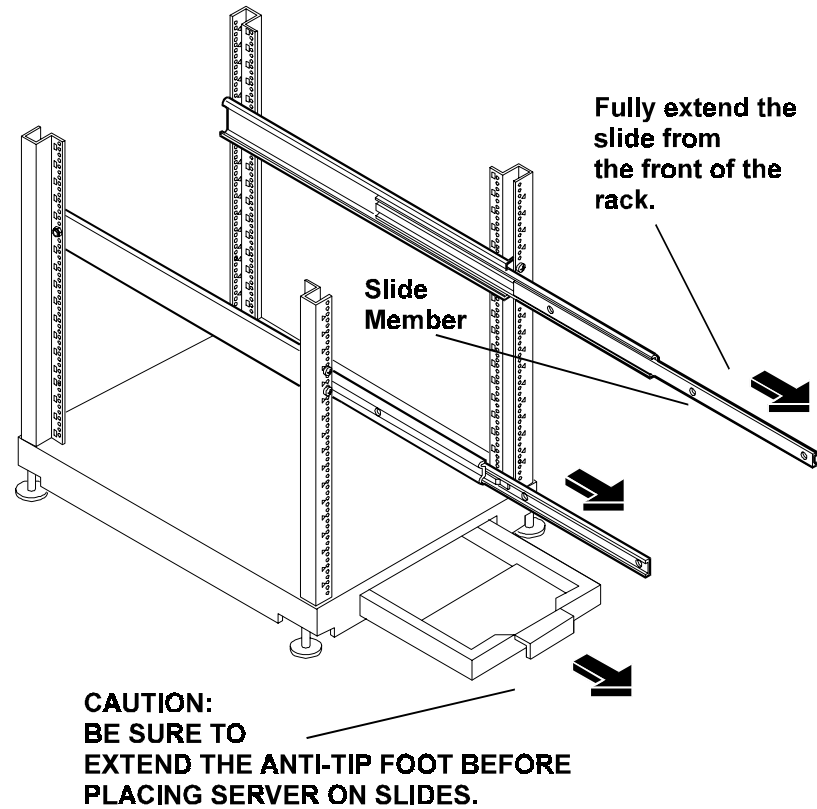

Figure 8-12. Fully Extend Slides and Anti-Tip Foot from Rack Front
- 2. Extend the slides fully until you hear a click, indicating they are in the locked out position. Note that slides do not come apart. See Figure 8-12.
CAUTION Both rack types feature an anti-tip foot which must be extended out the front to prevent rack tip-over. See Figure 8-12. You can tell the front from the rear (for both types of rack) by the overhanging top panel at the rear of the rack.